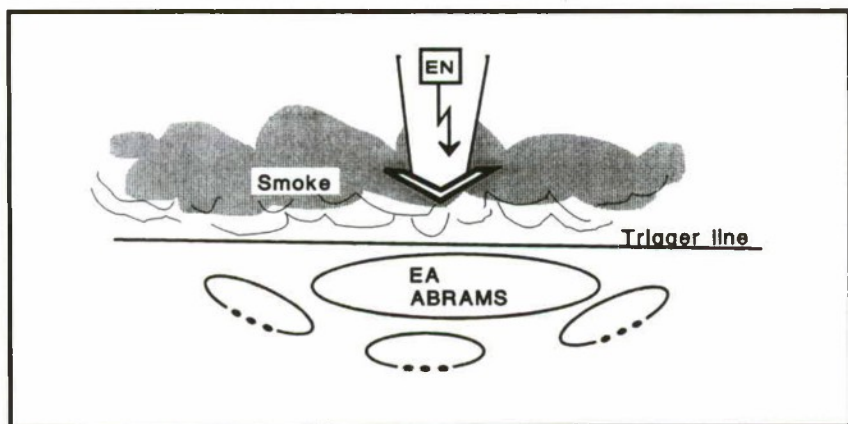

Figure D-5. Using smoke to confuse the enemy and silhouette his vehicles.
- **Obscuration.** Smoke can be fired on enemy positions to degrade the vision of gunners and known or suspected OPs, preventing them from seeing or tracking targets and thereby reducing their effectiveness. Employed against an attacking force, nonthermal smoke can cause confusion and disorientation by degrading the enemy's command and control capabilities; at the same time, friendly units retain the ability to engage the enemy using thermal sights and range bands. In addition, enemy vehicles become silhouetted as they emerge from the smoke. If smoke employment is planned and executed correctly, this will occur as the enemy reaches the trigger line (see Figure D-5, page D-26).